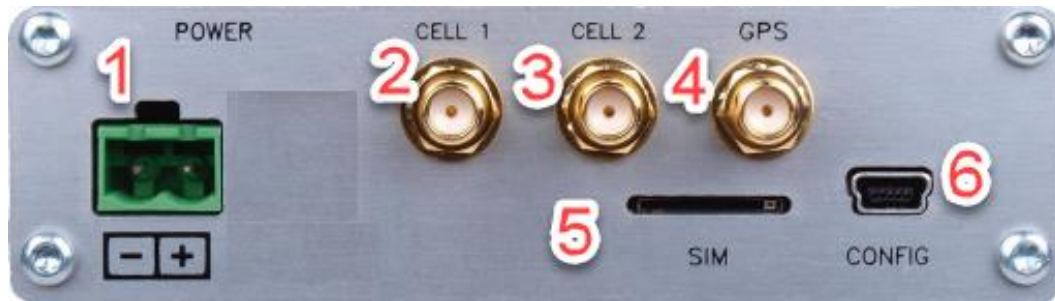

Figure 3. Rear panel of the **ETP-CI-4G-GSM** Cellular Interface.
3. Insert the micro-SIM (3FF) card into the slot labeled **SIM** (see **Figure 3 – Item 5**).
5. Connect the cables from the remote-mounting MIMO antenna to the **CELL 1**, **CELL 2**, and, **GPS** connectors (see **Figure 3 – Items 2, 3, and 4**). On the built-in cable assembly of the remote-mounting MIMO antenna, there are two (2) cables labeled **CELL** – connect those cables to the **CELL 1** and **CELL 2** connectors. Any of the two **CELL** cables can connect to either connector.